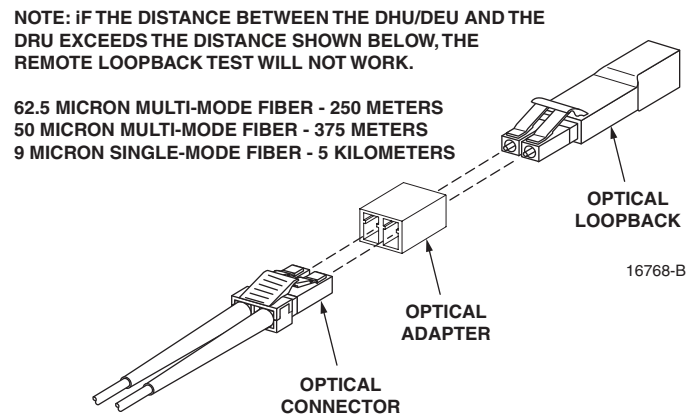

Figure 27. Optical Fiber Loopback Test
11. Clean the optical fiber connectors and then using an LC optical adapter, connect the loopback to the connectors as shown in Figure 27.